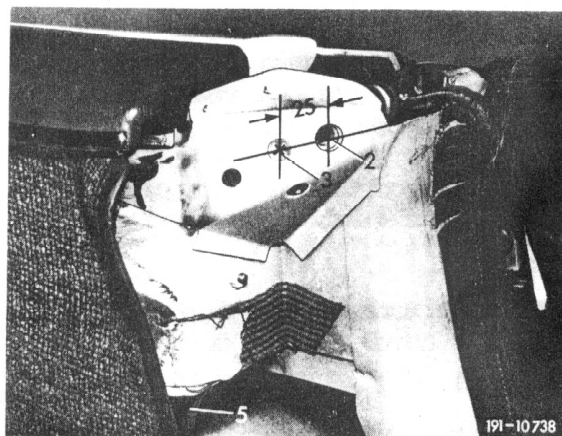
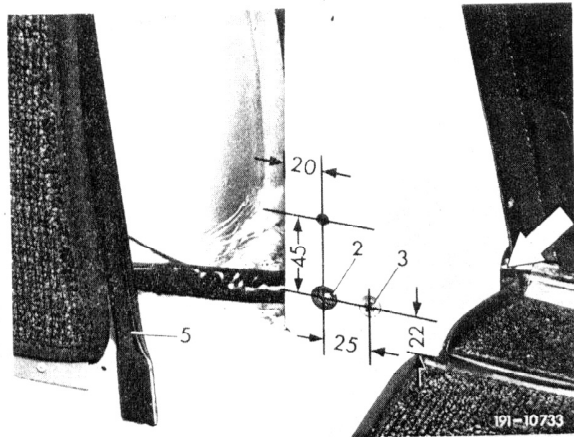

Figure 3 Top of "B" pillar
Figure 4 Inward facing side of "B-pillar"
7. Drill a hole (2) or enlarge an existing hole to 14 mm at the top of the "B" pillar. Using modified threaded plate "a" as a template, mark and drill the location for the 7 mm diameter screw hole (3, Figure 3).
8. Guide the modified threaded plate "a" through the flap opening created in step 6. Attach modified threaded plate "a" behind the metal bracket with M6x18 screw at location 3 (Figure 3).
10. Drill a 14 mm diameter hole (2) at the bottom of the "B-pillar" (Figure 4). Using modified threaded plate "b" as a template, mark and drill a 7 mm diameter screw hole (3, Figure 4). Continue with step 11.
11. Guide modified threaded plate "b" through existing opening (white arrow) and attach with M6x18 screw (3, Figure 4).
12. Fit upper portion of the support strut (5) under lip at "B" pillar (Figure 3). Place strut in parallel to wheel well curvature. Mark and cut-off excess material of strut, ensuring that the strut sits on the shoulder, not in lower seat well (Figures 4 and 5). Weld at top and bottom of strut. Coat all welds with zinc dust paint.
"B-pillar" (see also Figure 4)